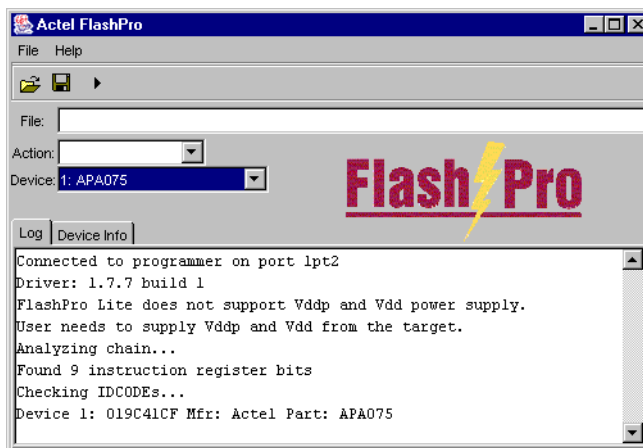

Figure 3-3. FlashPro: Analyzing Chain
1. From the **File** menu, click **Analyze Chain**. Chain details appear in the Log window, as shown in Figure 3-3. If you encounter any failures, please refer to “Error Messages & Troubleshooting Tips” on page 89 for more information.